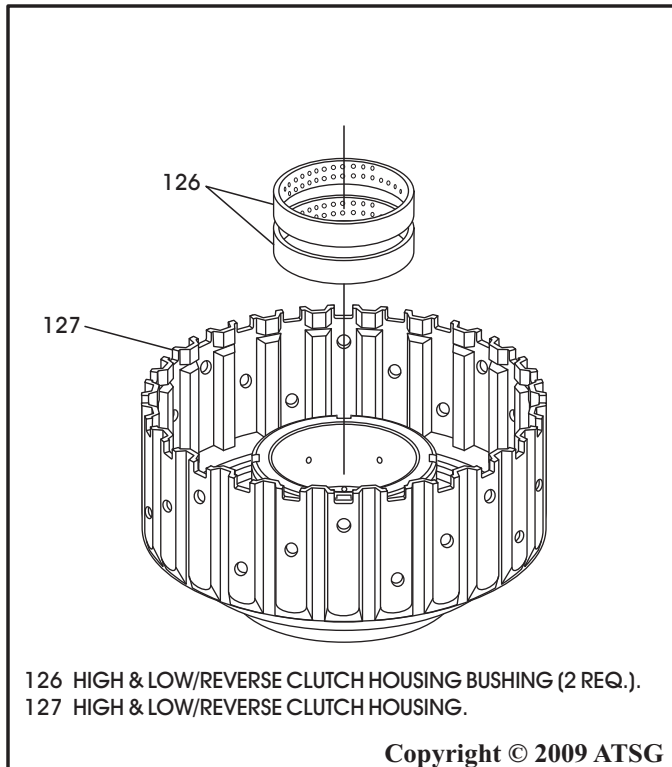

Figure 131
4. Replace bushings in the high and low/reverse clutch housing, as shown in Figure 131, using the proper driver.